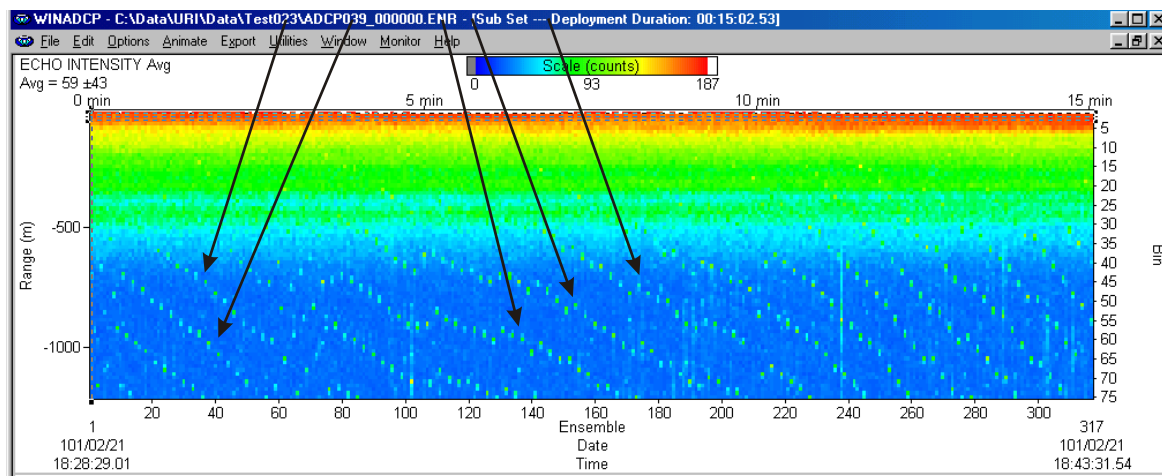

Figure 23. Repeating Pattern of Interference Terms in the Echo Intensity Contour Plot
- a. You must review the data for reasonable echo intensity values and that it is free of spikes. Reasonable values will have the beginning of the profile start between 130-200 counts. At the end of the profile the echo intensity values should be between 10-50 counts. You will then want to review the echo data as a color contour plot (in *WinADCP*) to look for any spikes (high echo intensity values relative to the depth cells around it) that show a repeating pattern (see Figure 23). If there is a repeating pattern then you have external interference. Continue with step 9b to determine if you have bias from this interference.